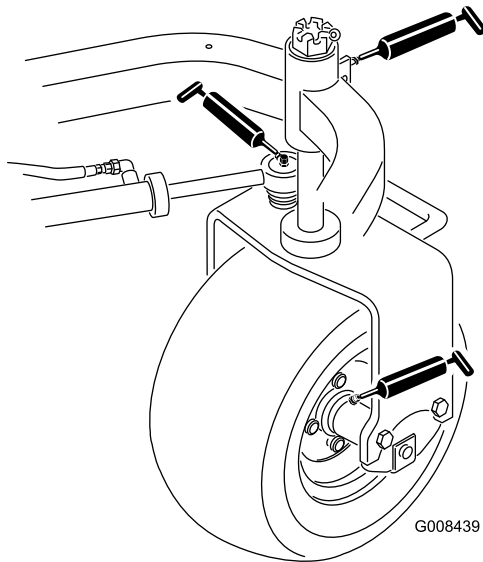

Figure 28
- Rear wheel hub (1) (Figure 28)
- Castor bearing (1) (Figure 28)
- Steering cylinder (2) (Figure 28)